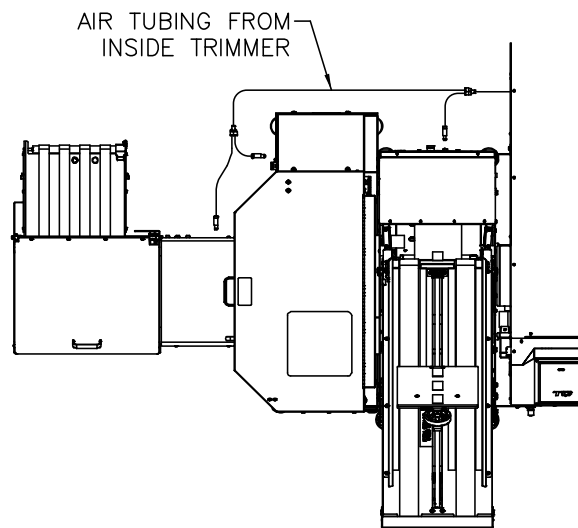

Figure 2-18. Air Tubing Connections
7. Connect the air tubing as shown in Figure 2-18.